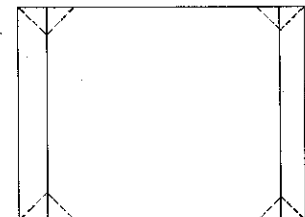

fig. 5
- Adjust the E-W CORNER to obtain condition as in fig. 5.